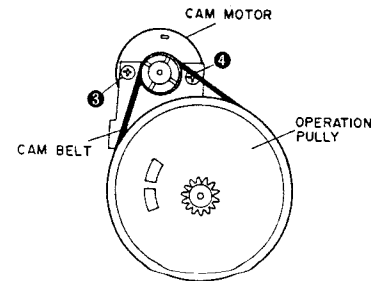

Fig. 3-9
- 5) Remove cam motor securing screws **3** and **4**. (Refer to Fig. 3-9.)